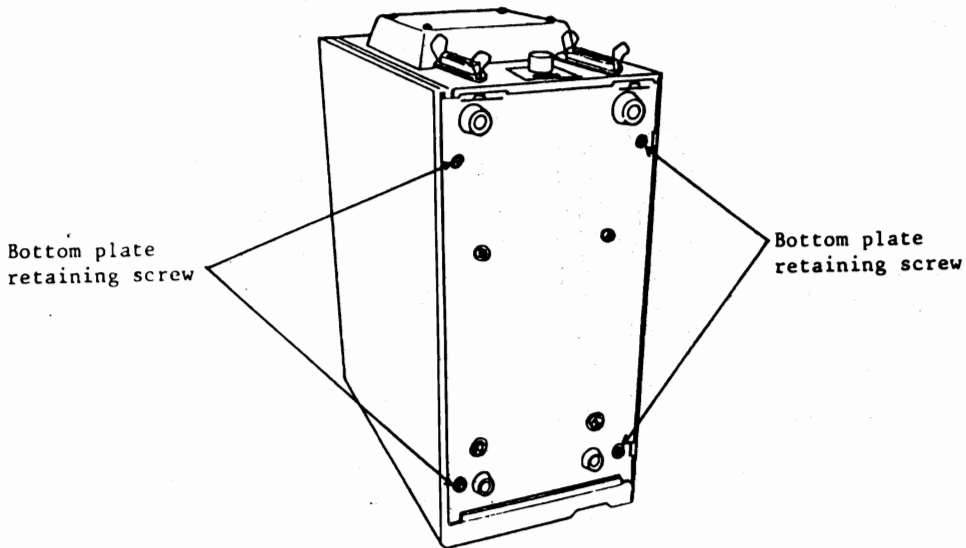

Fig. 3.4.3
- ③ Remove four retaining screws (Fig. 3.4.3) from bottom cover.
- ④ Pull housing toward yourself while slightly lifting it.